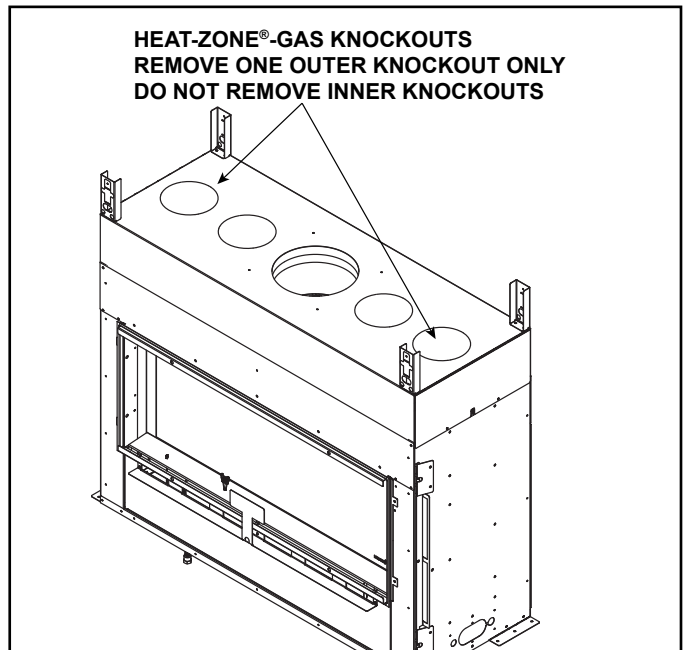

Figure 1 Top Knockout Locations
1. Locate the Heat-Zone[®]-Gas knockouts on the top of the appliance as shown in Figure 1. Remove one of the outer knockouts from the appliance with a tin snips or screwdriver. Inner knockouts cannot be used for Heat-Zone[®]-Gas installation.